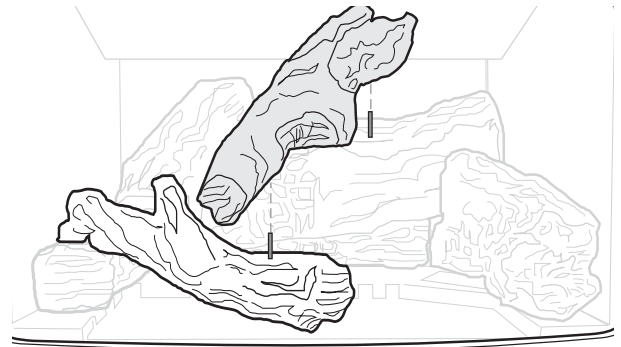

Figure 36. Install Crossover Log
**2. PILOT FLAME:** You can monitor the pilot flame through the view port located at the rear of the Right Log. See fig. 36. The pilot flame should be steady - not lifting or floating. The flame should be blue in color around the pilot hood, with traces of yellow toward the outer edges.